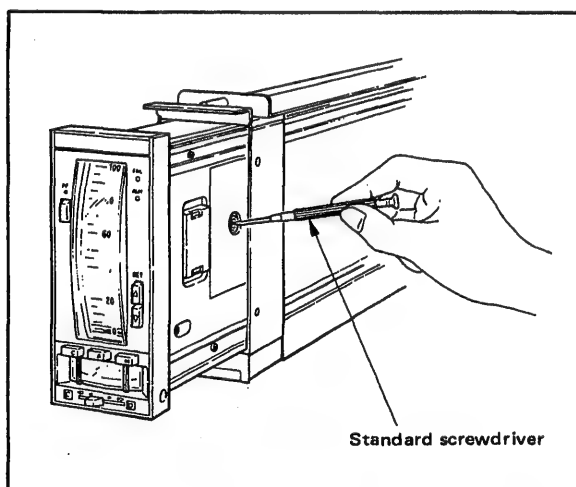

Figure 6-2-2. Zero Adjustment of Setpoint Index.
- (2) Adjust using the same procedure as described in steps (2) through (6) for the measurement pointer zero point (Section 6-2-2). Figure 6-2-2 shows how to adjust the setpoint index zero point.